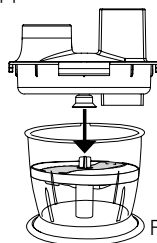
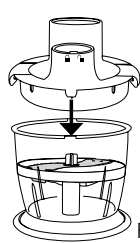

FIG. 4a.
FIG. 4b.
4. Attach the food processor lid onto the bowl, refer to Fig. 4a. Make sure that the two tongs (extensions) on the lid are aligned with the two grooves on the food processor bowl as illustrated in Fig. 4b.